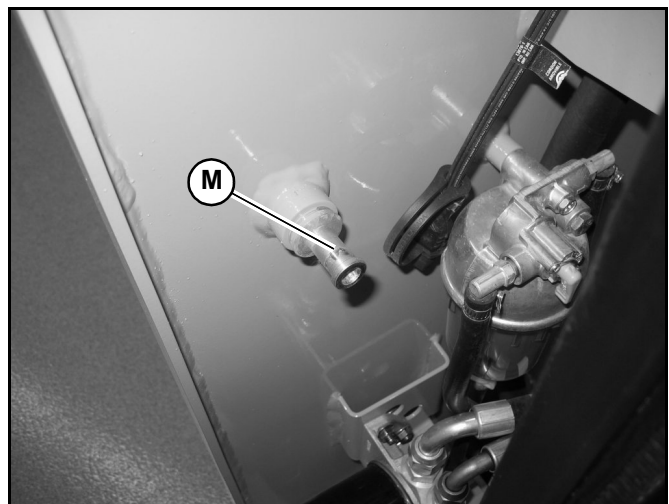

Fig. 49 – Chassis Ground/Rear Door Catch
5. Connect the free end of the positive jumper cable to the positive (+) terminal (P) on the booster battery
6. Connect the negative jumper cable to the negative (-) terminal (N) on the booster battery.
7. Open the rear door of the engine compartment ("Engine Access" on page 103) and connect the free end of the negative jumper cable to the rear door catch (M, Fig 49) in the engine compartment.